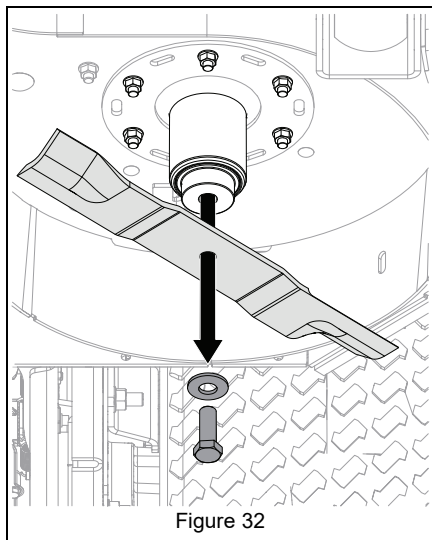

Figure 32
- See Figure 32.
See Figure 32.